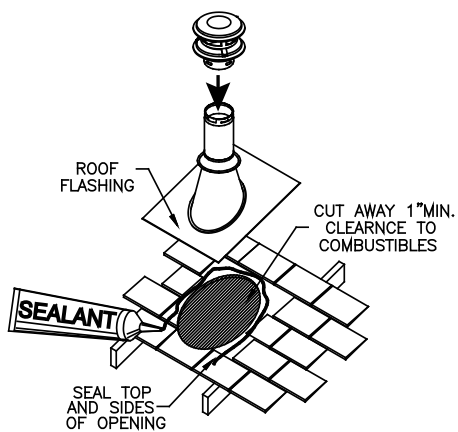
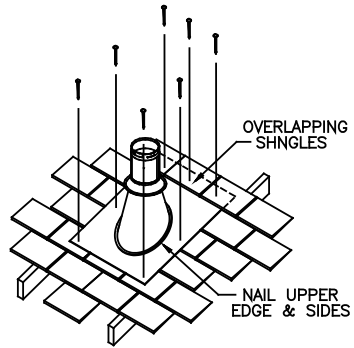

Figure 7
Figure 8
H. After lining up for the hole in roof, using the same method as 2. (B), cut either a round or square hole in the roof (**Figure 7**). Always cut the hole with the proper clearance to the vent pipe. Install the upper edge and sides of Flashing under the roofing materials and nail to the roof along the upper edge and sides (**Figure 8**). Do not nail across the lower edge. Seal all nail heads with non-hardening waterproof sealant.